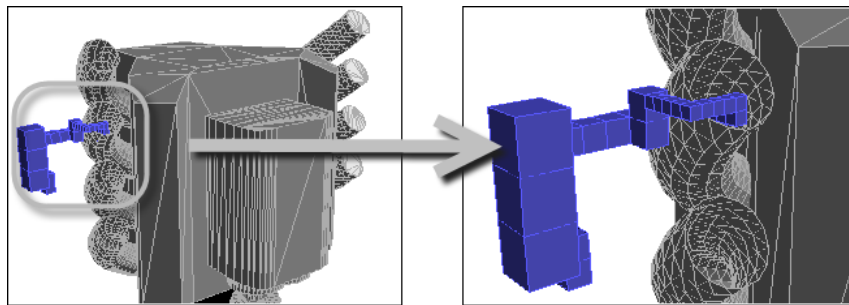

Figure 8.5.4: Display of Geometry with Highlighted Trace Path
5. Display the original geometry and click the Trace button in the Trace Path panel (Figure 8.5.4).
The traced path will now be visible along with the original geometry. You can zoom in to the region where the trace path enters the geometry (Figure 8.5.4).